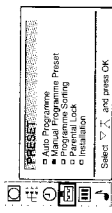

Fig. 6
- 1 Select the symbol  for »Preset« with $\Delta+$ or $\nabla-$ and press OK. The PRESET menu appears. (See Fig. 6.)